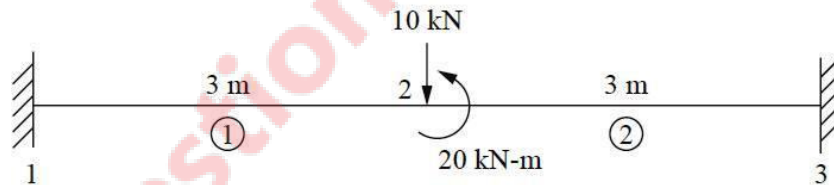

Figure 4
- (b) Determine the displacement and rotation at the nodes under the force and moment located at the center of the beam as shown in figure 4 below. The beam is fixed at each ends. A downward force of 10 kN and an applied moment of 20 kN-m act at the center of the beam. Let $E = 210 \text{ GPa}$ and $I = 4 \times 10^{-4} \text{ m}^4$. **07**